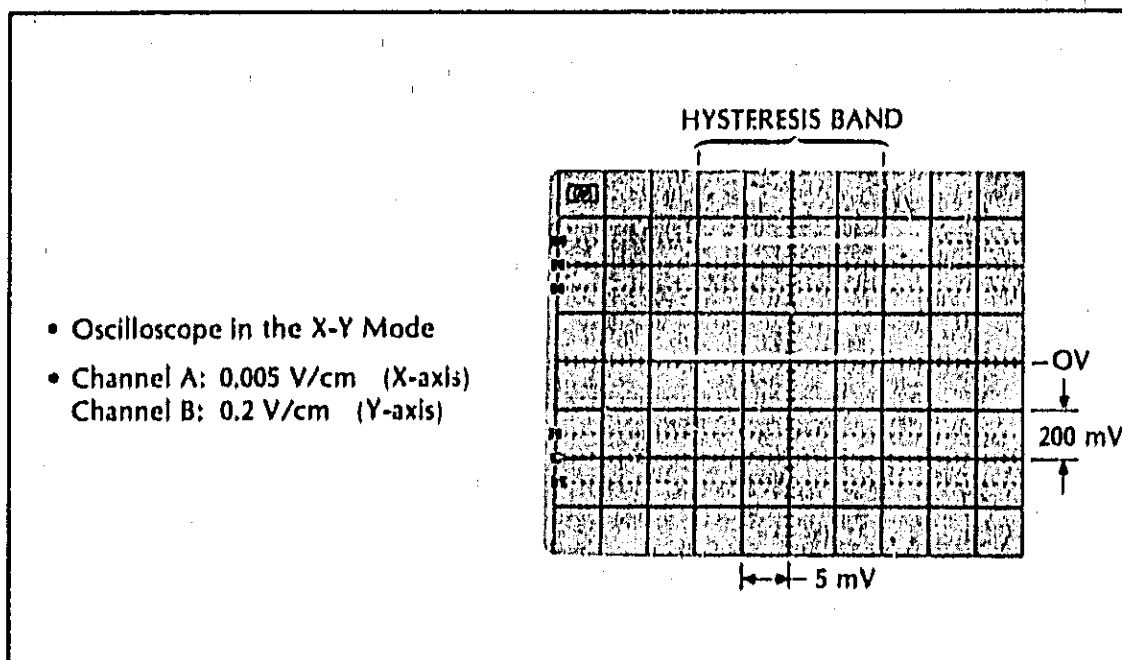

Figure 5-3. Hysteresis Adjustment
h. Set both R26 (offset) and R55 (sensitivity) pots in the midrange position. Vary R26 (offset) to get hysteresis in the center of oscilloscope screen. Adjust R55 (sensitivity) to 20 mV p-p (X-axis); see Figure 5-3. This completes the adjustment for the HP 5328A Channel A.